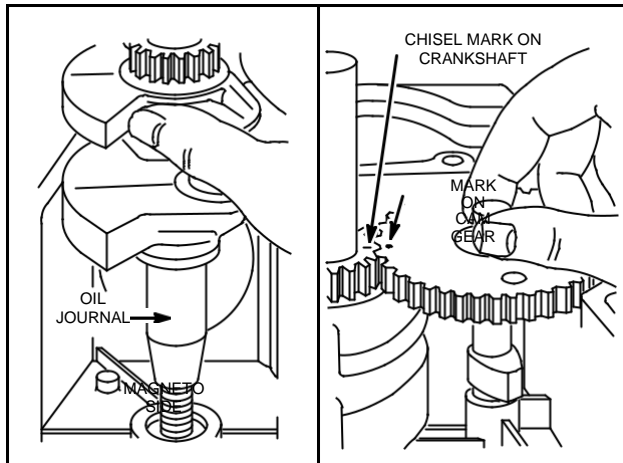

Fig. 888 – ALIGNING TIMING MARKS
Install tappets first. Turn crankshaft until timing mark is facing carburetor side of cylinder. Install cam gear and align timing marks, Fig. 888.
**NOTE:** Many Model Series have a removable timing gear. Install timing gear with inner chamfer toward crank pin. This assures the timing mark will be visible, Fig. 888.